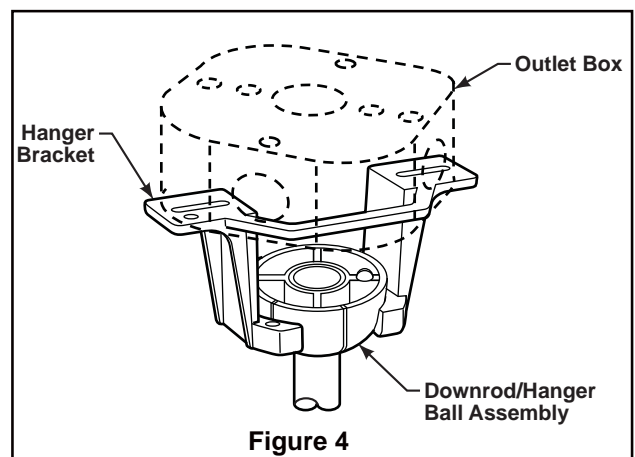

Figure 4
- 4. Thread downrod into the downrod support on top of the motor. Install the clevis pin by aligning the holes in the downrod support with holes in the downrod. Secure clevis pin with hairpin clip. Tighten the two set screws with nuts in the downrod support. (Figure 4)
2. Carefully lift the fan and seat the downrod/hanger ball assembly on the hanger bracket that was just attached to the outlet box. Be sure the groove in the ball is lined up with tab on the hanger bracket. (Figure 4)
4. Insert light bulb into socket. (Figure 4)